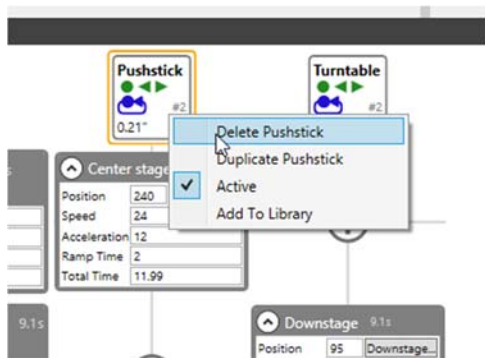

Figure 77
1. Right-click on the **Cue Grid** header of the machine you wish to remove, and select **Delete [machine name]** from the pop-up menu (Figure 77).